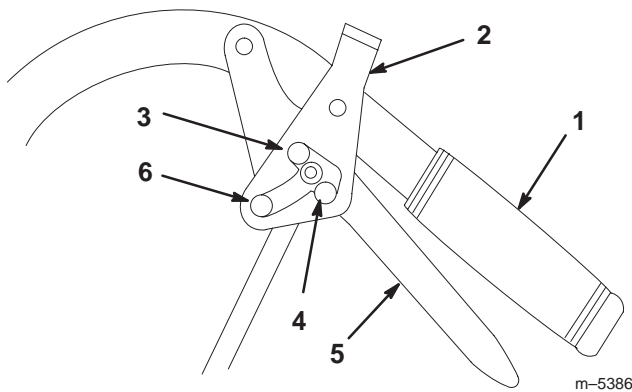

Figure 12
2. Place thumbs on the upper part of of locks and move them ahead (Fig. 12).
2. Place thumbs on the upper part of of locks and move them back until in forward speed slot (Fig. 12).
2. Place thumbs on the upper part of of locks and move them back (Fig. 12).
2. Place thumbs on the upper part of of locks and move them forward until in forward slot (Fig. 12).